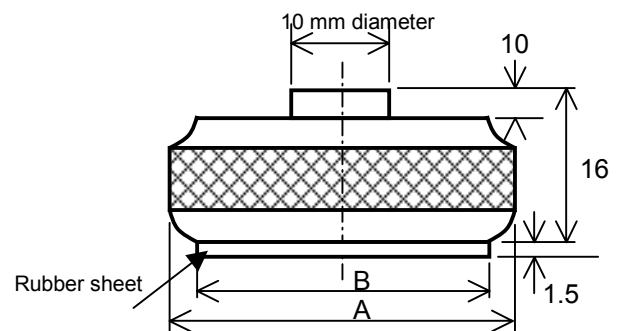

Fig 1-3-3
- (b) Compression condition: Time 3 sec, Tool diameter: 16 mm in diameter (refer to Fig 1-3-3)
- (b) Compression condition: Time 3 sec, Tool radius: 30 mm in diameter (refer to Fig 1-3-3)